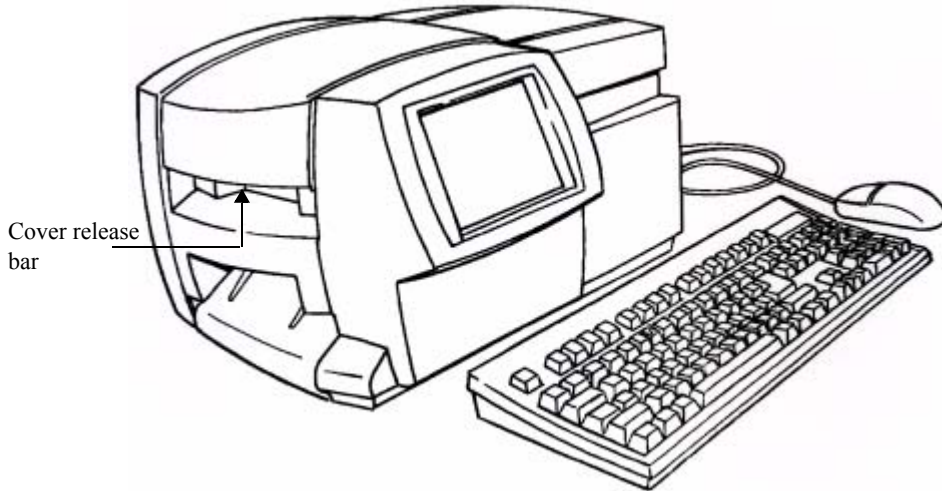

Figure 2-2. Opening the printer.
- Step 1:** Plug the keyboard cable into the keyboard connector, shown in Figure 2-2.